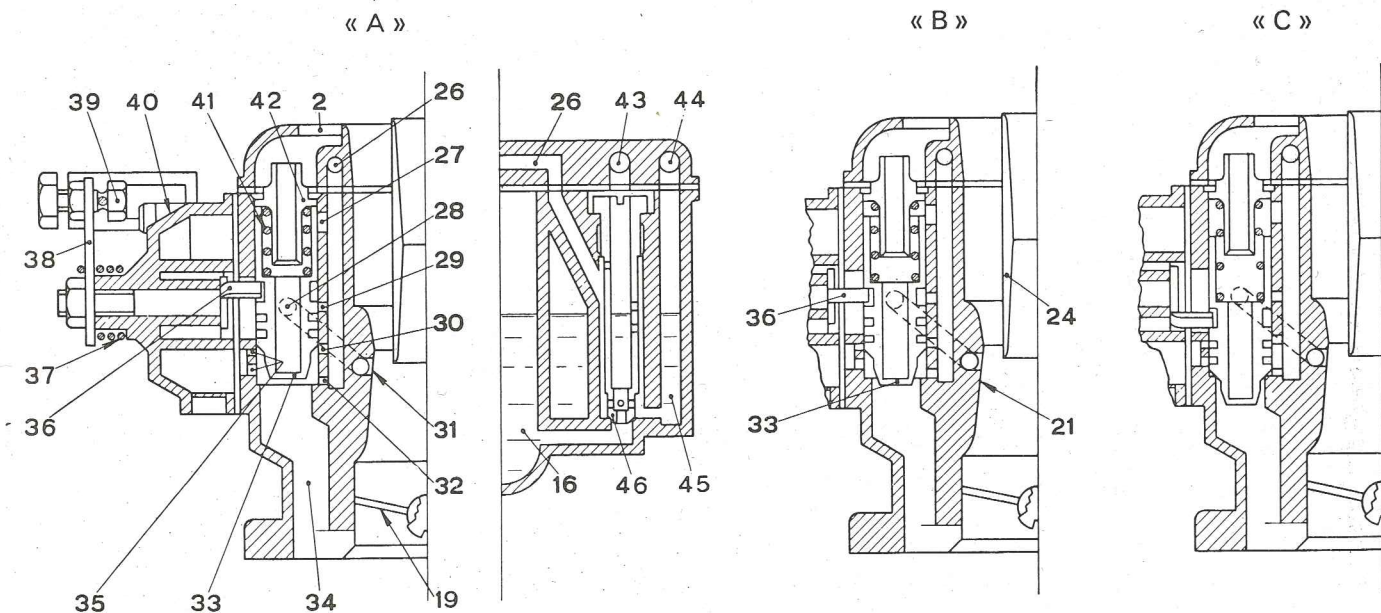

Fig. 117 - Starting device (choke) diagrammatic section.
Starting Device (fig. 117).
This device has the function of ensuring proper engine cold starting. It is controlled by means of the lever placed behind the gearbox lever and must be progressively set back to rest position as engine is reaching the rated operation temperature. The starting device is made up of valve (33, fig. 117) actuated by the lug of rocker (36) connected, through a suitable shaft, to control lever (38). By pulling the device control to stroke end, through lever (38) and rocker (36), valve (33) is lifted from its seat and brought in the «fully open» position (diagram «A», figure 117). Under these conditions valve (33) closes air hole (27) and mixture hole (29) and uncovers mixture orifices (30) (32) [which communicate with starting jet (46) through duct (26)] and air holes (35). With valve (33) partially opened, hole (29) may communicate with carburetor throat, through the valve central slot, duct (28) and hole (31) drilled in Venturi (21) in correspondence with the restriction.
After engine firing the device delivers a mixture whose fuel/air ratio is such as to permit regular running of engine while still cold. But, as the engine warms up, this mixture would be excessive and too rich; therefore, it becomes necessary to exclude gradually the device as the engine is reaching the rated operation temperature. During this maneuver, valve (33) slowly uncovers hole (27) which permits a greater amount of air to enter through spring guide hole (42) (to weaken the mixture) while, by closing progressively holes (30) and (32) and air holes (35) also the amount of mixture is reduced (see diagram «B», fig. 117).
When the starting device is excluded, valve (33) covers also hole (29) and prevents the entrance of mixture (diagram «C», fig. 117).